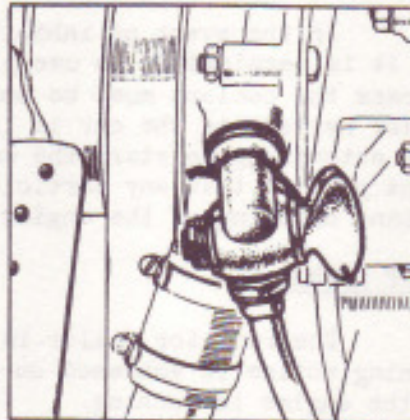

FIG. 2. TAP IN CAR HEATER RETURN PIPE TO COOLANT PUMP WIRED BACK PERMANENTLY IN THE OPEN POSITION. (TAP DELETED ON LATER CARS.)
IMPORTANT - It should be noted that although two taps are provided on the engine for isolating the pipes leading to the interior car heater, only the tap in the feed pipe from the cylinder head (the rear tap) should be used for turning off the hot water feed. The tap in the return pipe to the coolant pump should never be closed, and it is accordingly wired back permanently in the open position as shown in Fig.2.
- (vii) Disconnect the car heater return pipe at the pump end. On early cars a tap is fitted between the coolant pump and the car heater return pipe (see Fig.2). Remove the pipe from the tap by unscrewing the union nut. Leave the tap in position on the pump and do not remove the wire securing the tap in the permanently open position.